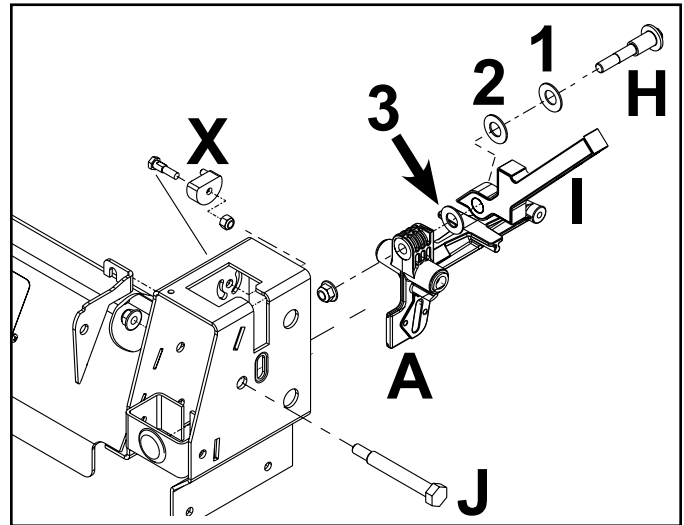

Fig. 021
4. Torque the control lever pivot nut (H) to specification - 30 ft-lbs. (40 Nm).
5. If needed, install the control box back onto the chassis as outlined in this chapter. (Fig. 021)